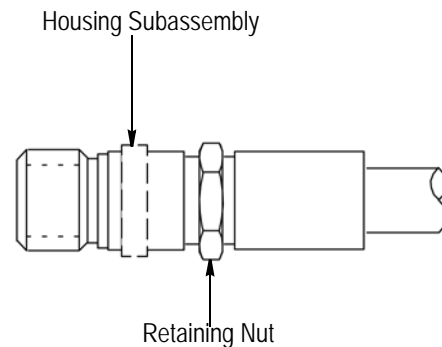

Figure 5
3.4. Securing Housing to Inner Sleeve Sub-Assembly (Figure 5)